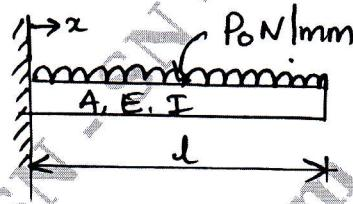

Fig Q2(b)
- b. Using the Galerkin's method, determine the expression for the displacement of a cantilever beam shown in Fig Q2(b).